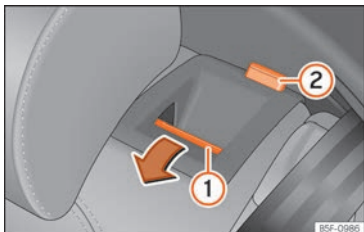

Fig. 119 Rear seat: folding the backrest.
- Press the unlock button »» **Fig. 119** ① forwards and at the same time fold the backrest down. The rear seat backrest is not engaged when the red marking of the button ② is visible.
The rear seat backrest is not engaged when the red marking of the button »» Fig. 119 ② is visible.